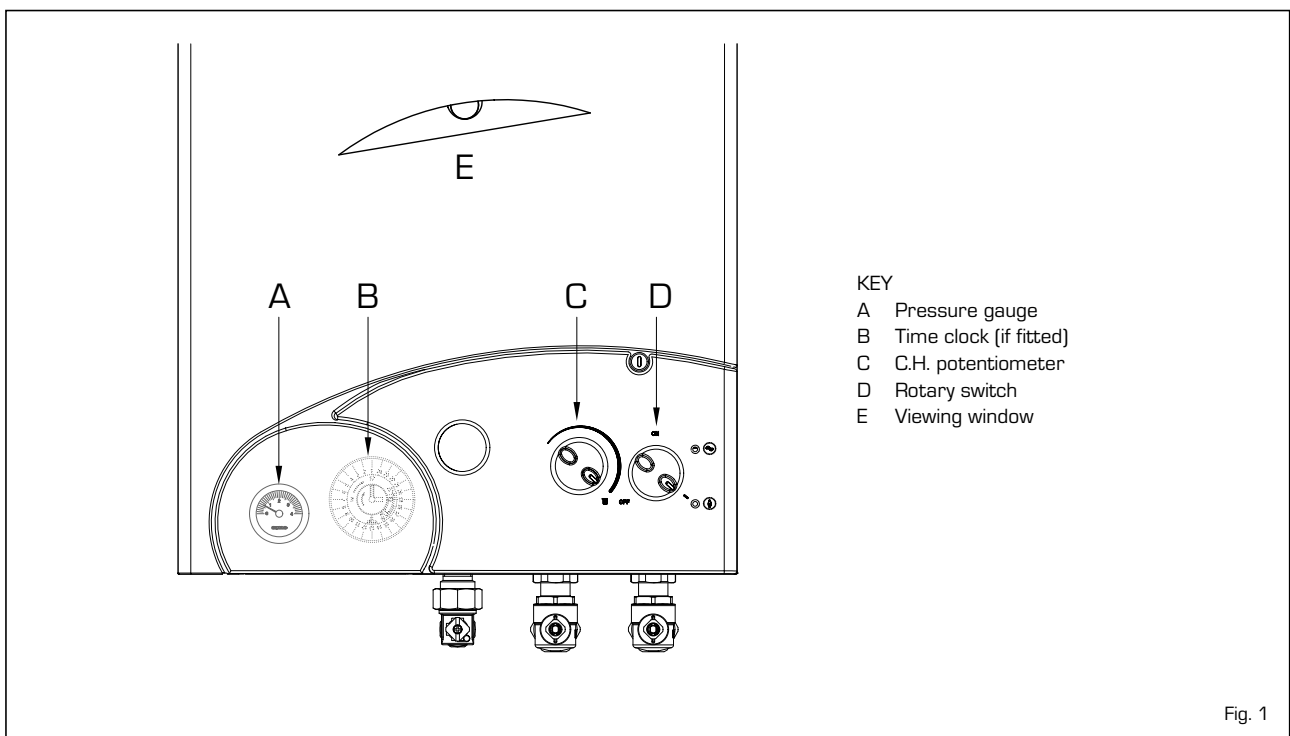

Fig. 1
1.3.1 To light the appliance (see fig. 1)
- Check that the room thermostat and time clock are calling for heat. Turn the heating potentiometer (C) to maximum (fully clockwise).
- Set the required temperature for the C.H. by rotating the potentiometer (C) clockwise to increase or anticlockwise to decrease the temperature.
1.3.2 To turn the appliance off (see fig. 1)
The gauge (A fig. 1) on the facia panel indicates the approximate system pressure. If the normal running pressure is seen to decrease over a period of time there is a water leak and you should consult your installer or service engineer.